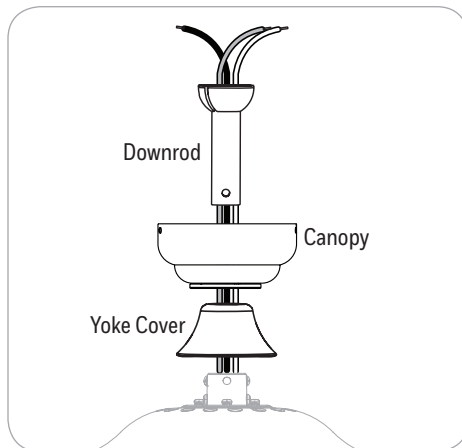

Figure 3.2
2. Feed the fan wires through the yoke cover, canopy and downrod (Figure 3.2).